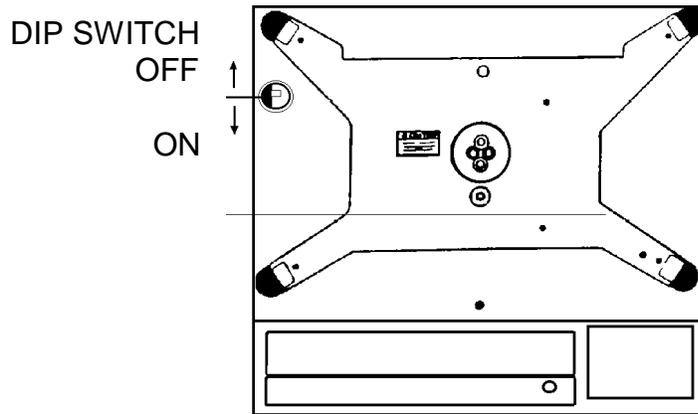

FIGURE 4
- Slide the Set-up Switch to the ON position, as shown in figure 4.